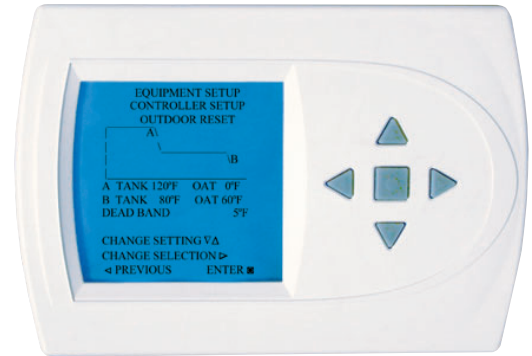

Figure 1
3. You are now returned to the Main Menu and Figure 1 is a similar view. **NOTE: Outdoor air temperature is only displayed if an outdoor air sensor is installed.**
4. To increase the temperature set point, use the arrow up button. To decrease the set point, use the arrow down button. Five (5) seconds after the last button push, the new setpoint is saved. **Outdoor reset control is done in the installer's setup and cannot be adjusted from the front screen.**